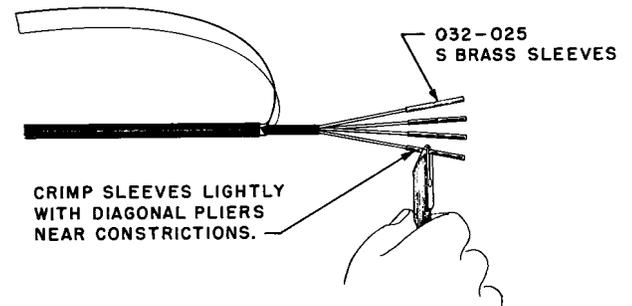

Fig. 7 – Placing Sleeves on Conductors
4.01 Place 032-025 S Brass Sleeves on the bared end of each conductor. Make certain that each sleeve is pushed fully onto its conductor, then crimp the sleeve lightly with diagonal pliers to hold the sleeve in place, as shown in Fig. 7.